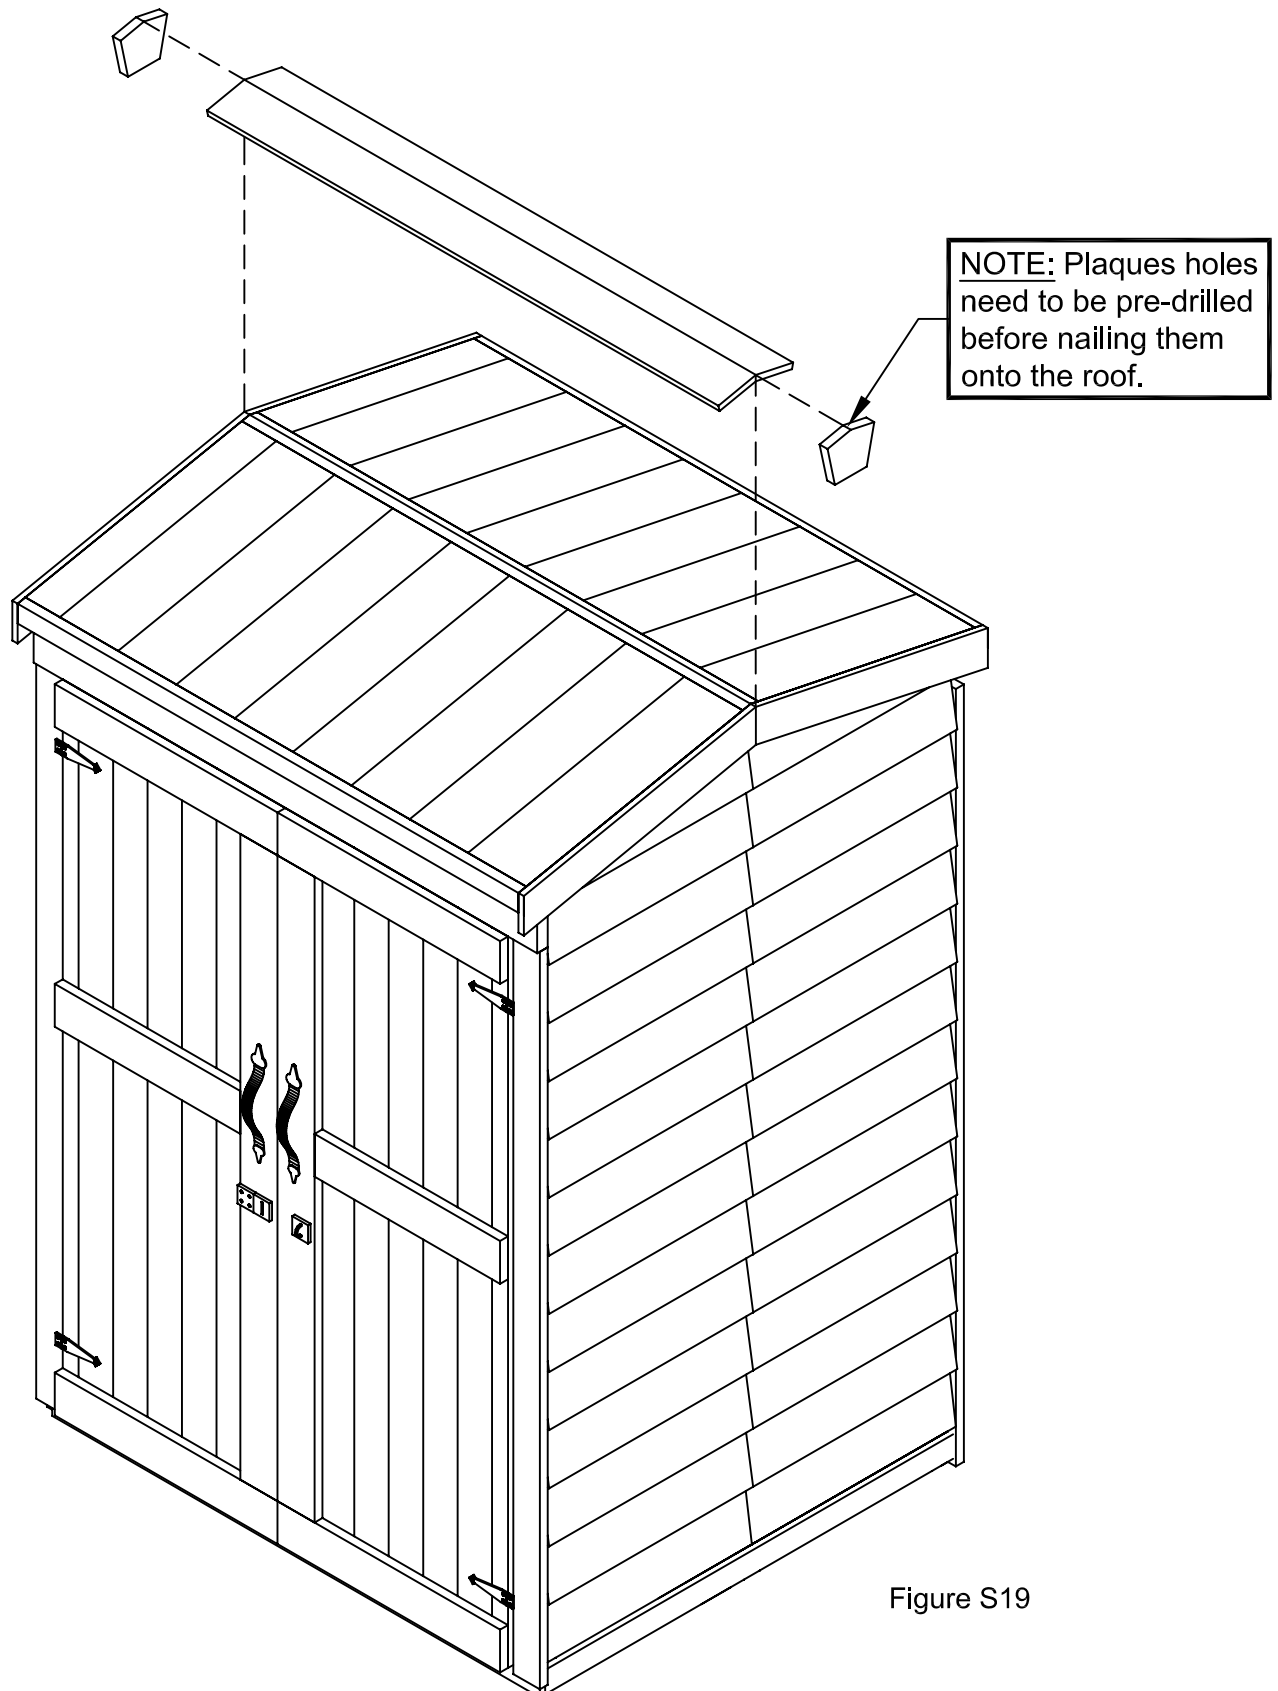

Figure S19
23. Fasten the ridge cap to the roof panel, use 1 $\frac{3}{4}$ " finishing nails as shown Figure S19. Lastly fasten the two pentagon plaques on both ends with 2 - 1 $\frac{3}{4}$ " finishing nails.